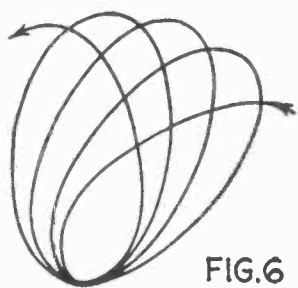

FIG. 6
I SHALL not give much space to the confirmation of prediction (3), the rosette shape for Mercury's orbit (Figure 6), since I have fully treated it in the fourth article of this series. For the benefit of readers who may not have seen the complete discussion, however, I shall remark that theory and observation agree in every particular. In fact, until Einstein's theory of relativity entered the field, the curious behavior of Mercury's orbit was an unexplained anomaly. Herein was one of relativity's first triumphs.